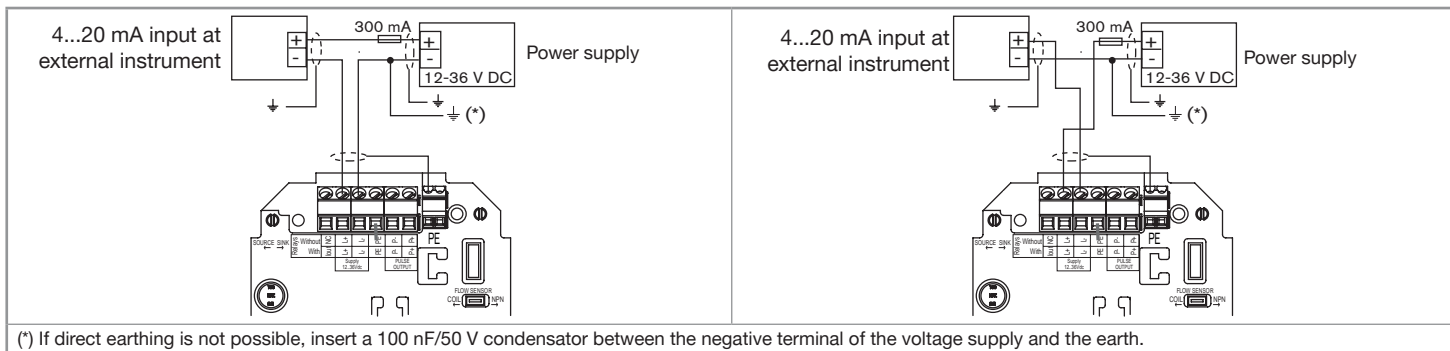

Fig. 26: Possible wiring of the current output of a compact version, 12...36 V DC, without relays, with cable glands
- Wire the current output according to Fig. 26 of chapter 8.6.3.